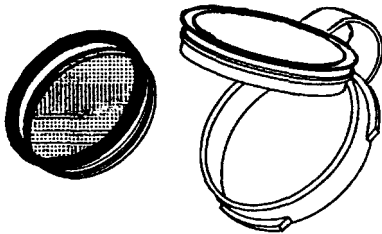

Figure 2-22. Light Interference Filter and Storage Container.
(1) Remove the container (Figure 2-22) from the carrying case.